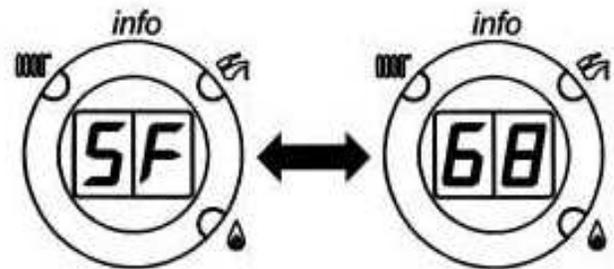
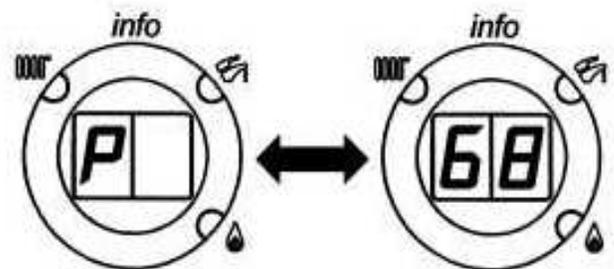

Fig. 3
Fig. 4
**Note: LED's 2 and 3 (fig. 4) flash alternately and the display alternates the message “SF” and the boiler output temperature every five seconds (fig. 3).**
**Note: In “calibration mode”, the display alternates between the message “P” and the boiler output temperature about every 5 seconds. (fig. 4)**